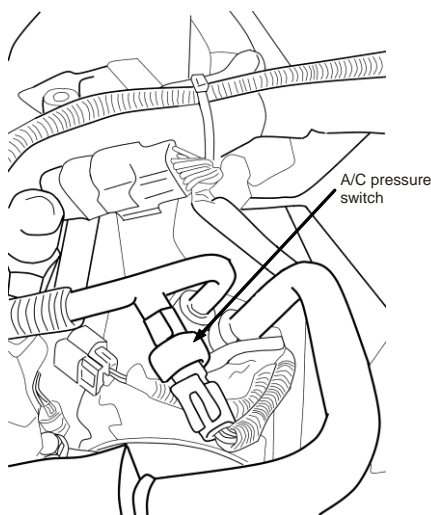

Figure 2.3
- ☐ Locate the Air Conditioning pressure sensor located at the front driver's side of the engine. (Figure 2.3)